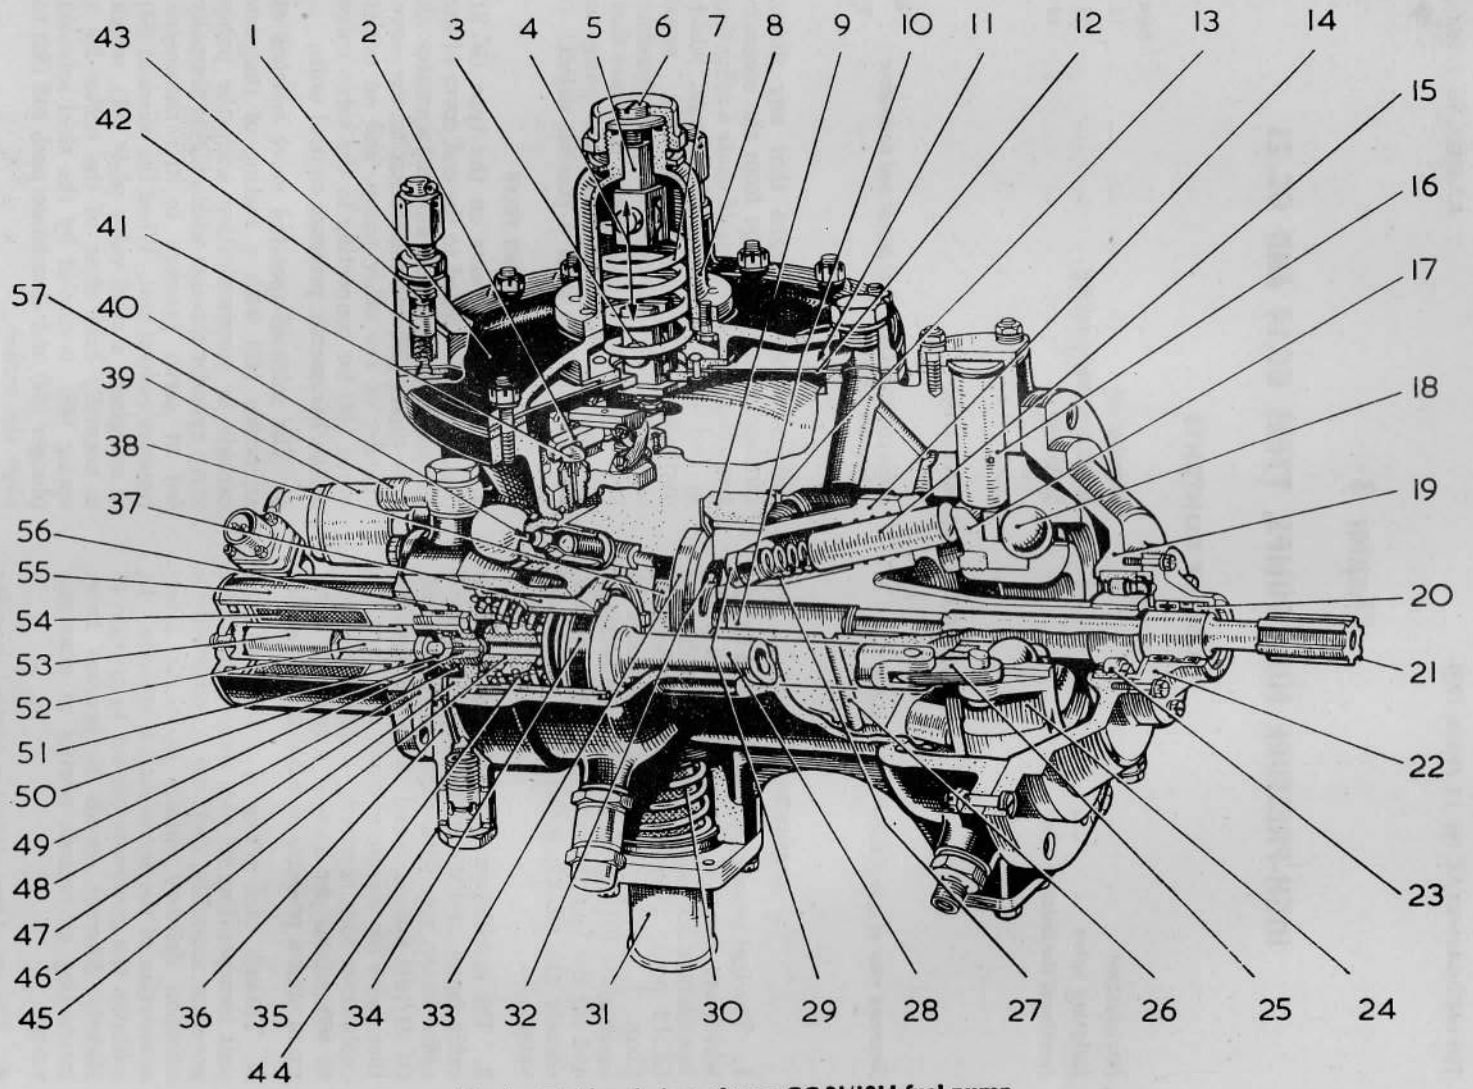

Fig. 1. Sectional view of type GC.21/19H fuel pump
5. The solenoid valve on the type GC.21 pump (*fig. 1*) is fitted to the end cover of the control piston cylinder and incorporates an inlet union (57) for connection to the servo cylinder of the other pump, and an outlet union (44) for connecting to the servo valve of the barometric pressure control unit.
6. The solenoid-operated valve consists of an orifice (49) with a seating of tungsten carbide in communication with the pump servo cylinder through which fuel is normally fed at servo pressure to the barometric pressure control unit. When the solenoid (54) is energized, a steel valve plate (51), which is normally held clear of the orifice by a spring (48), is moved by the steel solenoid plunger (53) and aluminium push rod (52) to close the orifice.
7. The orifice is incorporated in the aluminium bronze valve carrier, which, together with the steel solenoid fixing plate (47), forms the valve chamber (50).
KEY TO FIG. 1